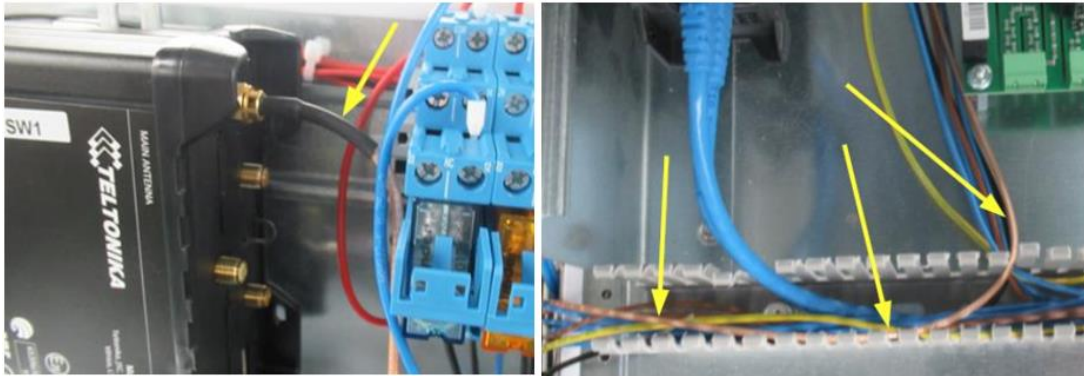
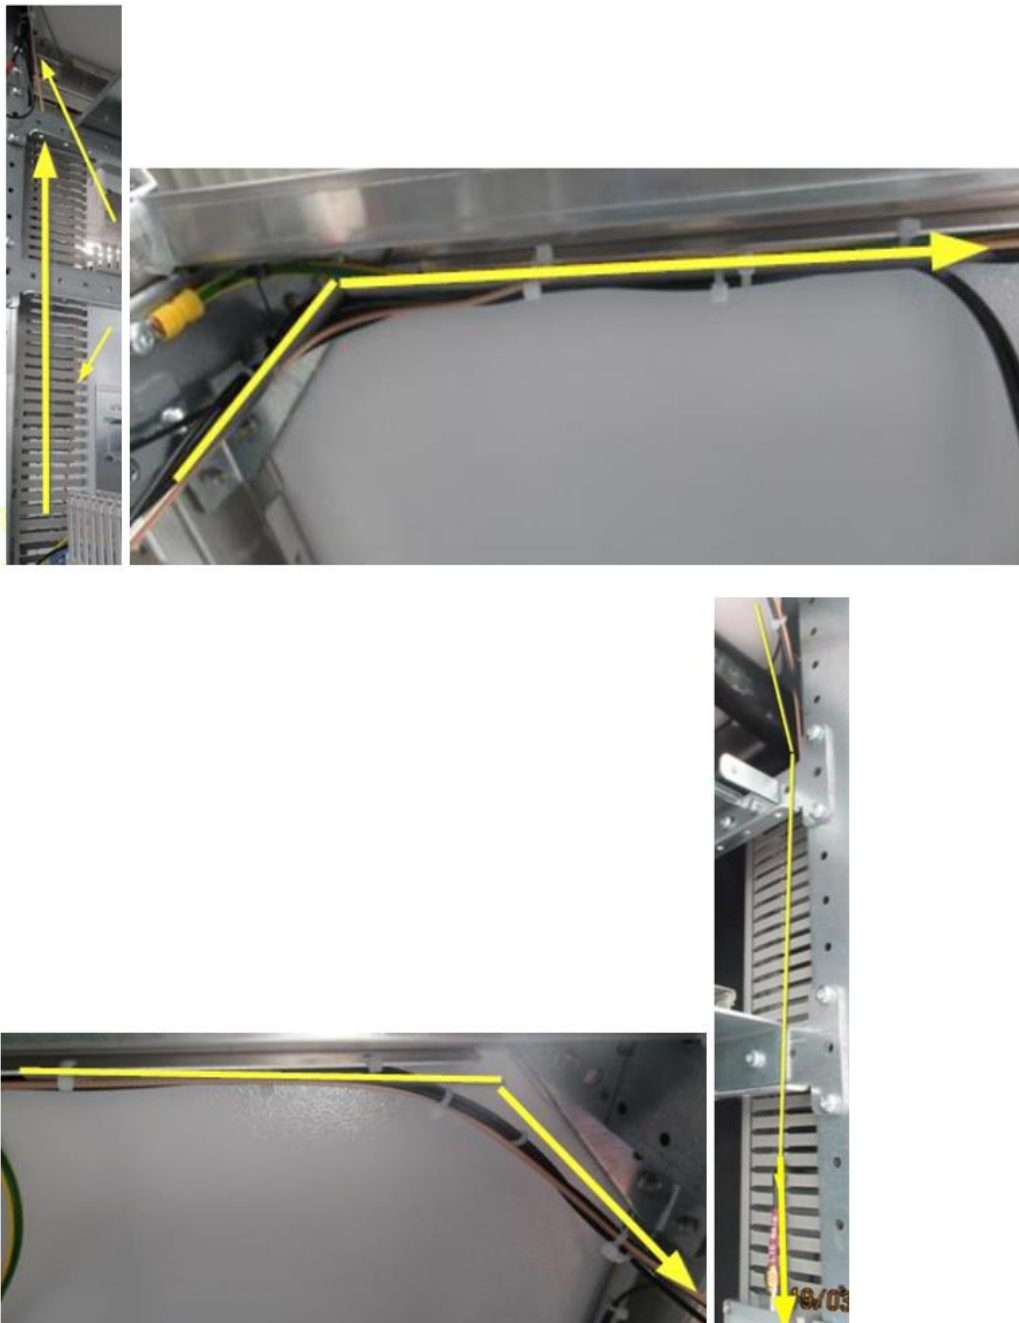

Figure 30. Antenna cable routing
Figure 31 New routing of antenna cable (left to right)
- Step 4 Disconnect antenna cable from Teltonika RUT955 LTE MAIN connector and reroute it according to **Figure 30** and **Figure 31**.